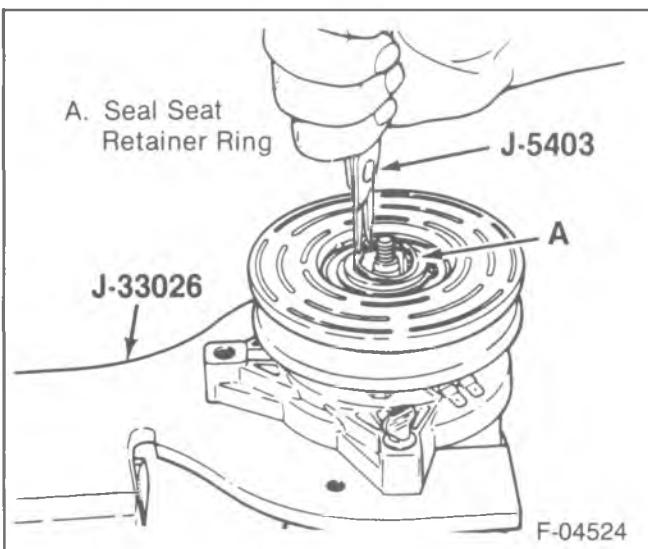
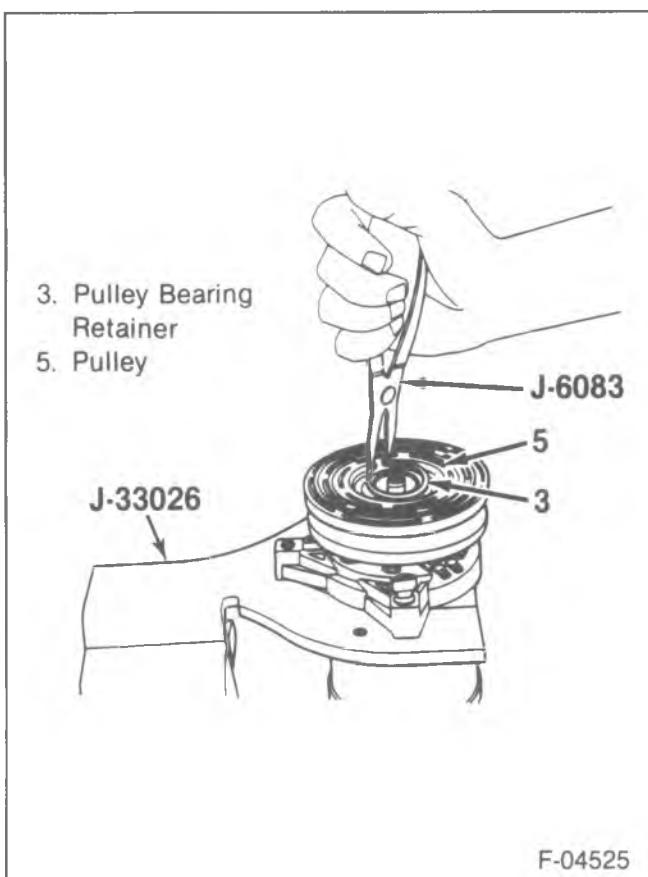

Figure 21—Removing or Installing the Shaft Lip Seal Retaining Ring
Figure 22—Removing or Installing the Shaft Tip Seal
1. Clutch plate and hub assembly (2).
- Install J-34614 over the threaded end of the shaft (20).
2. Shaft seal retainer ring using J-5403 (figure 21).
- Clean the compressor neck area around the shaft (20), the exposed part of the shaft seal (8) and the O-ring seal groove.
3. Shaft lip seal using J-23128-A (figure 22).
- 2. Shaft lip seal using J-23128-A (figure 22).
- 3. Shaft seal retainer ring using J-5403 (figure 21).